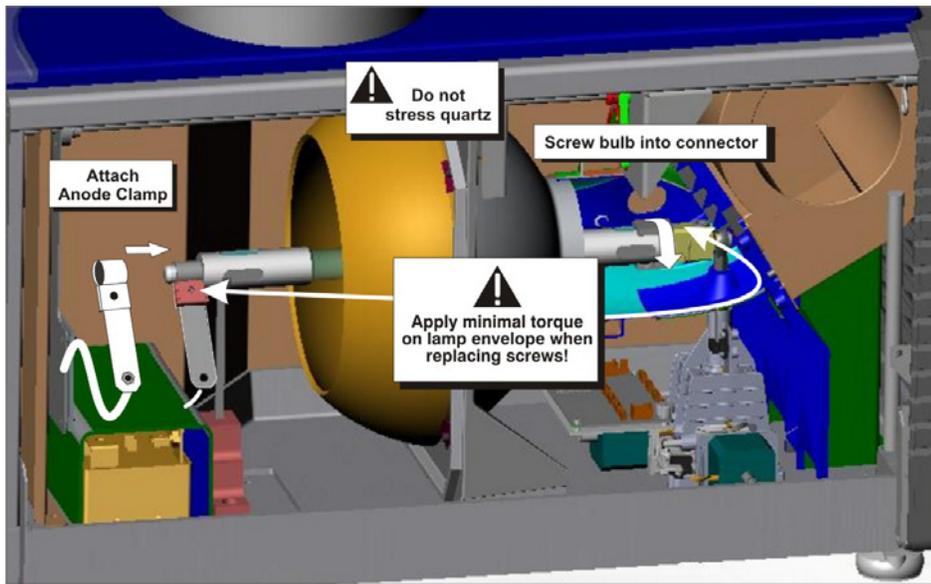

Figure 6-2 Install New Lamp
- Insert the threaded cathode (-) end of the lamp into the negative lamp connector nut located in the rear of the lamp compartment. (Figure 6-2) Using both hands, hand-tighten this end into the threaded nut. **Caution! 1) Handle the lamp by the cathode/anode end shafts only, never the glass. DO NOT over-**
- c. Rest the anode (+) end of the lamp on the anode yoke and slip the positive lamp connector over the bulb end. **(Figure 6-2)** Using the 5mm Allen key, squeeze together with the anode clamp making sure not to place any torque on the lamp quartz tube. **Important!** For CDXL-30SD lamps, make sure the “flat” part of the anode end of the lamp (if applicable) is facing in the 10 or 2 o’clock position once the lamp finger is installed in the 14mm threads and the clamp screw is tightened. For all other lamp types, keep the “flat” part of the anode end of the lamp facing up. **WARNING! Explosion hazard - Do not apply torque to the anode end of the lamp.**